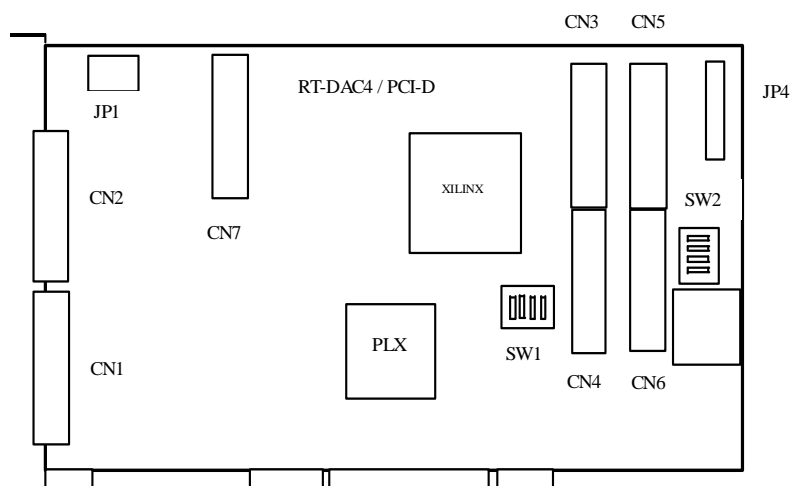

Fig. 5.1. RT-DAC/PCI board and location of connectors
- Connect 20-way ribbon cable to CN1 connector of the board (see Fig.5.1),